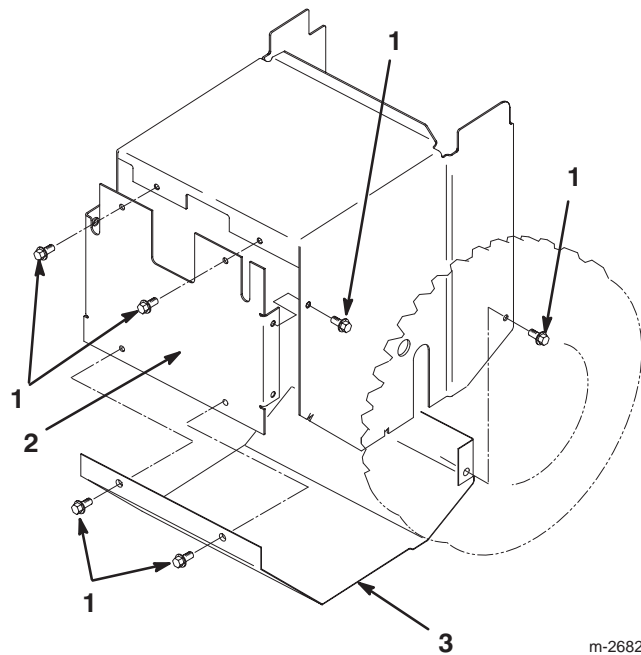

Figure 35
5. Remove the 8 bolts that hold the back and the bottom covers in place and remove the covers (Fig. 35).